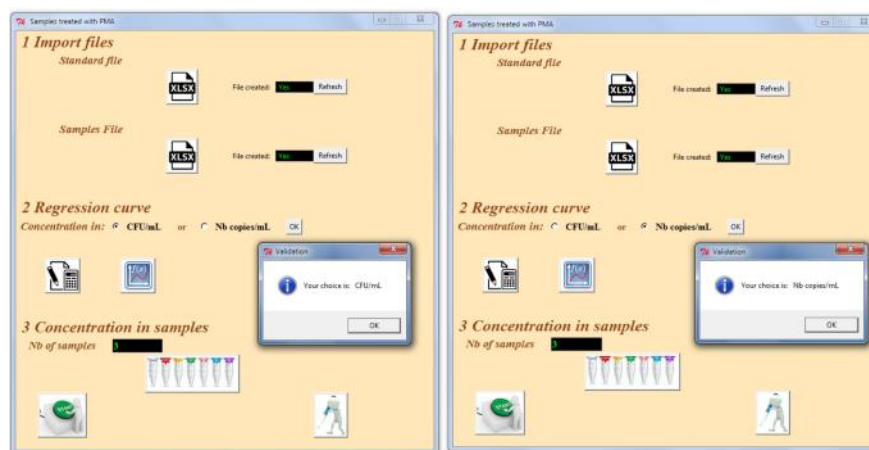

Figure 6: The fourth step: Selected units :  $\text{CFU.mL}^{-1}$  or number of copies. $\text{mL}^{-1}$
- **2 Regression curve:** In first time select the concentration, The choice is CFU.mL-1 or number of copies.mL-1 and click on the Ok button to valide, a new window appears and indicates your choice. If you are agreed click on the Ok button (Figure 6).